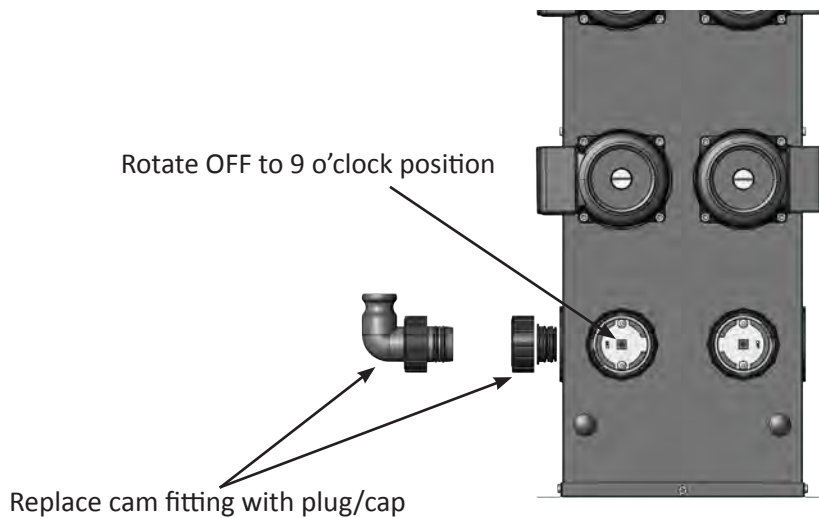

Figure 11: Completing unit #1 flushing; preparing to flush unit #2
4. Rotate the lower left valve so that OFF is in the 9 o'clock position. Remove the flush cart discharge hose from the lower left valve and install a plug seal and cap (Figure 11). Be sure to lubricate the O-rings on the plug seal to allow for easier removal during future service.